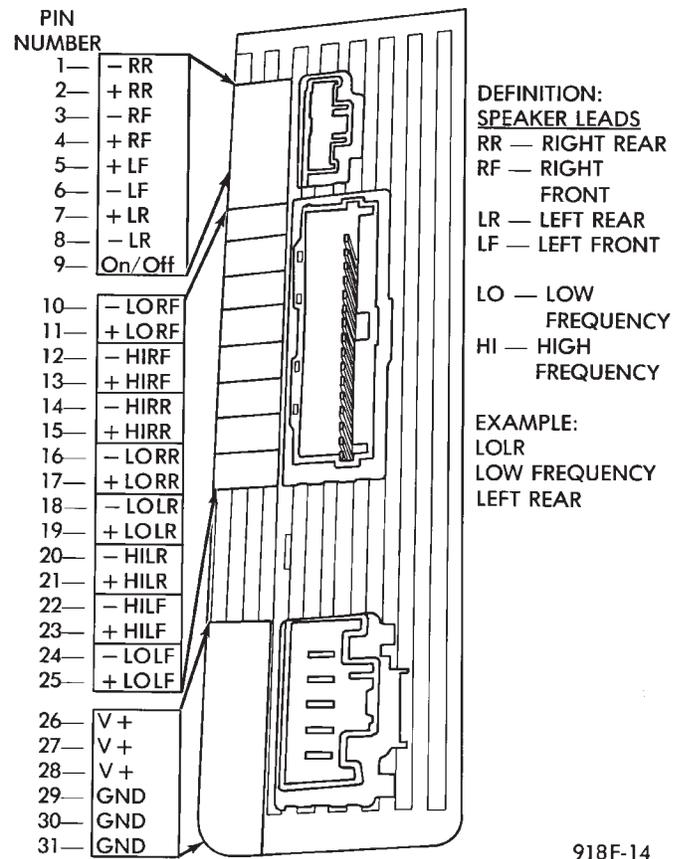

Fig. 35 Amplifier Test
When the radio system is ON, and all or some speakers are not operating or have a noise distortion refer to the diagnostic tests. The amplifier has the pin connections list on the case (Fig. 35).
- Remove output signal connector from amplifier and check for short to ground on the speaker with the distortion. Refer to Fig. 35 for the appropriate pin numbers.
- Remove output signal connector from amplifier and check for three to five ohms resistance to the non-operative speaker. Refer to Fig. 35 for the appropriate pin numbers.